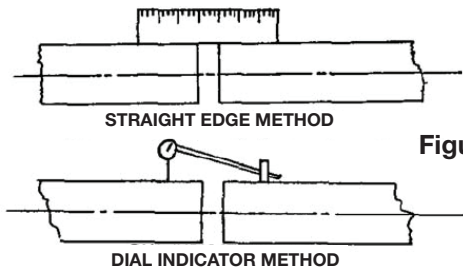

Figure 3
Step 2: Use a straight-edge to check if the shafts are aligned with each other. For a more precise indication of alignment, use a dial indicator (Figure 3).